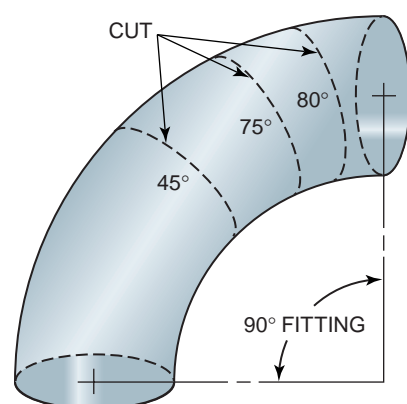

FIGURE 10-7 A standard 90° fitting can be cut to any special angle that is needed.
- Suitable for making specially angled fittings by cutting existing fittings, Figure 10-7.